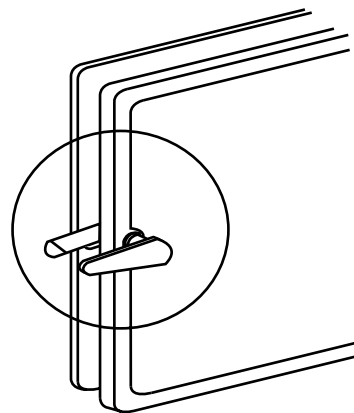

Fig. 11A
4. Then to open door, turn the handle counter clockwise to the 9 o'clock position and then continue to pull the door open. (Fig. 11A)